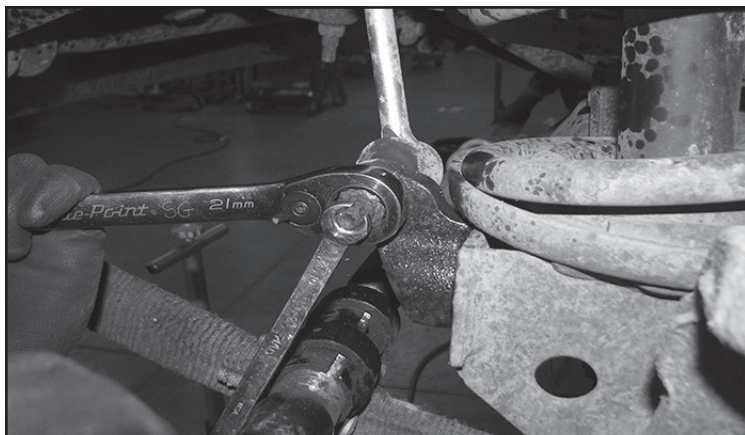

FIGURE 1 - STEP 2
2. Disconnect the sway bar on both driver and passenger side. **SEE FIGURE 1**